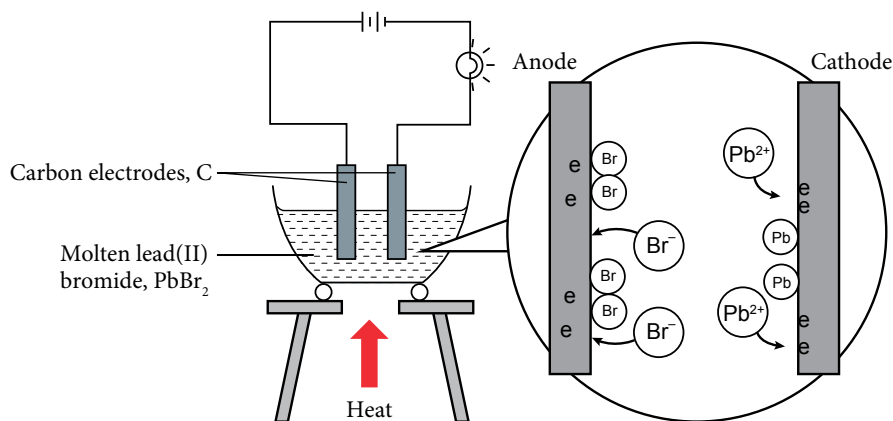

Figure 1.25 Lead(II) ions, Pb^{2+} move to the cathode and bromide ions, Br^- move to the anode
- During electrolysis, why does the bulb light up when lead(II) bromide, PbBr_2 has melted? Lead(II) bromide, PbBr_2 is an ionic compound consisting of lead(II) ions, Pb^{2+} and bromide ions, Br^- .
- Solid lead(II) bromide, PbBr_2 cannot conduct electricity because the lead(II) ions, Pb^{2+} and bromide ions, Br^- are fixed in lattice ion structure and cannot move freely.
- When lead(II) bromide, PbBr_2 melts, lead(II) ions, Pb^{2+} and bromide ions, Br^- can move freely as shown in Figure 1.25.